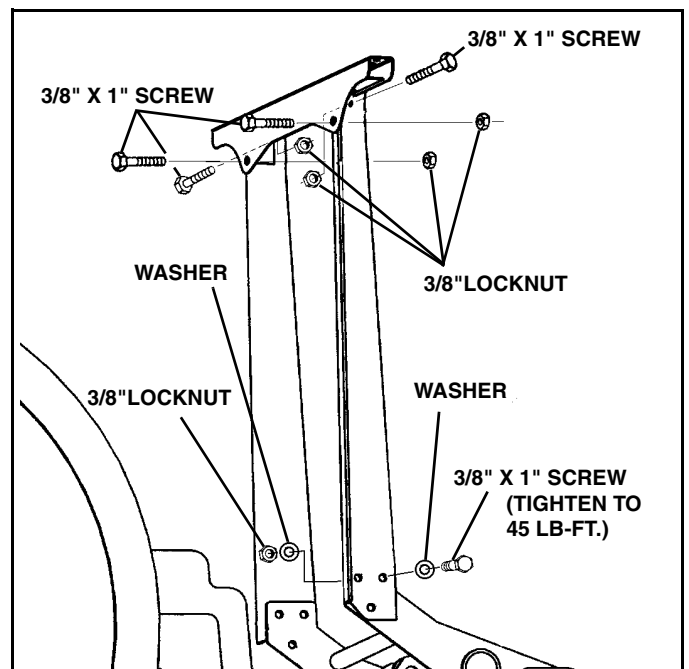

Figure 1-19
40. Remove left and right light support from light bar package. Secure each light bar support to lift/light bar with (3) 3/8" x 1" screws, washers and lock nuts from the light bar parts bag part number 96106089. Do not tighten at this time. (See Figure 1-19).
41. Secure light bar to supports with (4) 3/8" x 1" screws and lock nuts. Align light bar supports to vertical position and tighten all light bar hardware. Tighten six lower screws to 45 lb-ft. (See Figure 1-19).